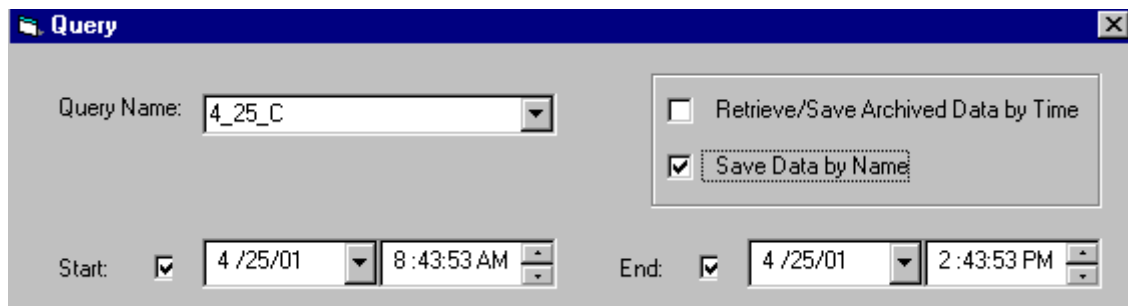

Figure 66. Selecting Retrieve/Save Data By Name
3. Before saving the query, click the **Save Data By Name** check box, Figure 66. This makes the save function ignore (not save) the specified time range.